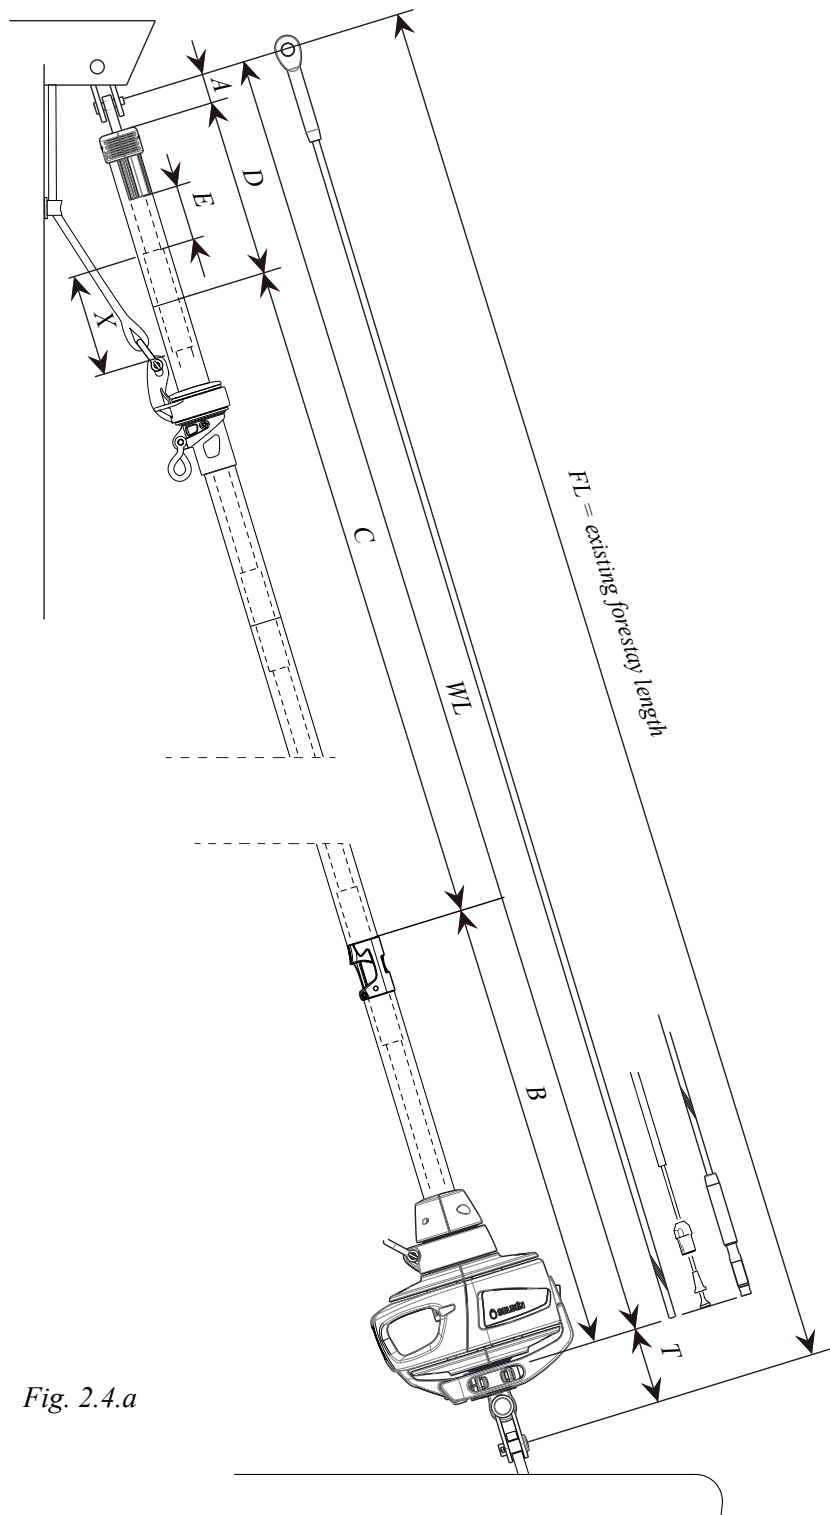

Fig. 2.4.a
If a stud-terminated stay is to be manufactured by a local rigger it is important to note that WL in this case equals the length of the finished stay, from eye to end of stud, as shown in fig. 2.4.a. WL is calculated in table 1.
| FL   | Existing forestay length (FL), including rigging screw (See Fig. 2.4.a)  |   |                      | 16.243   |   |
| WL   | Cutting measurement. The new forestay wire is to be marked at this point. (For stays with swaged stud, WL equals the length of the finished stay as shown in fig 2.4.a and NOT the cutting length) |   | =                    | = 16.068   |   |